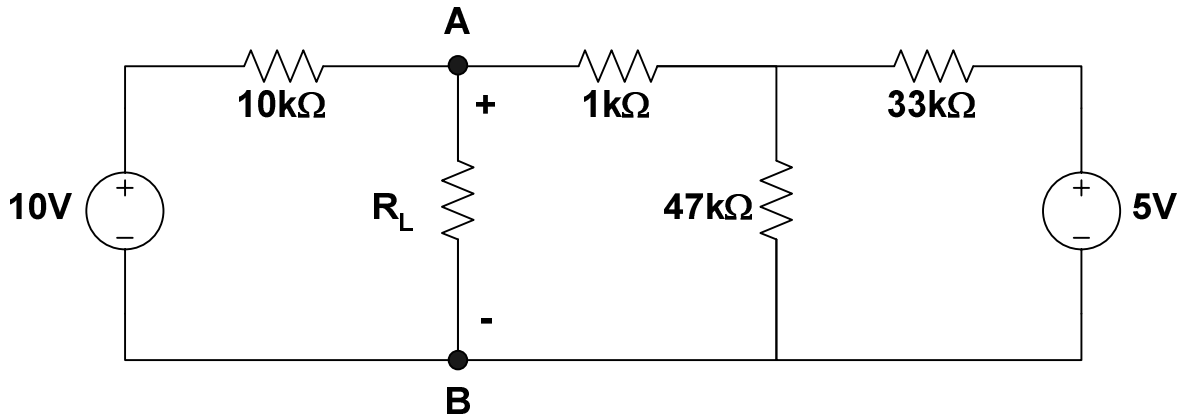

Figure 2: Circuit for Thevenin's equivalent
1. Construct the circuit given in Figure 2 on *Multisim Electronics Workbench*.
6. Build circuit of Figure 2 with hardwired components in the laboratory.
8. In the circuit of Figure 2 connect a variable resistor (R_L) between A and B.